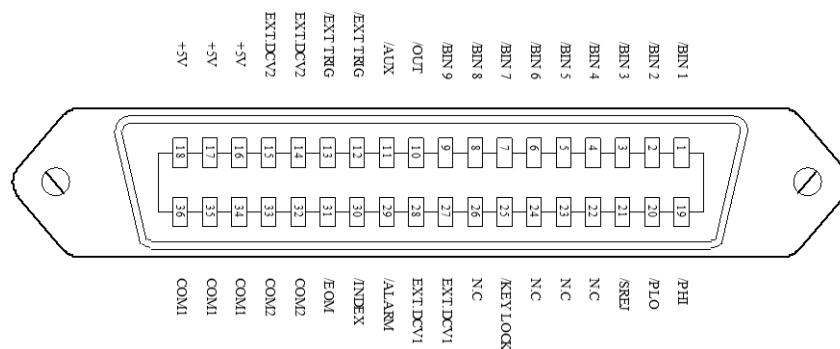

Figure 10-1 Interface Diagram
The interface diagram of the above pins is shown in Figure 10-1. See Table 10-3 for the signal assignment and brief description of the above pins. The timing diagram is shown in Figure 10-3.
**Note:** Figure 10-1 is just the interface definition of the BIN sorting, and the definition of the list sweep sorting and the transformer single test sorting are different.